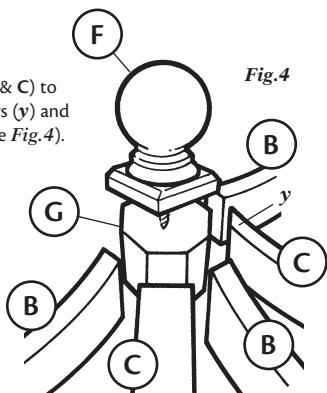

Fig.4
Assemble Roof by fixing Beams (B & C) to Centre Block (G) with 7.6cm screws (y) and top Block with the Ball Cap (F) (see Fig.4).